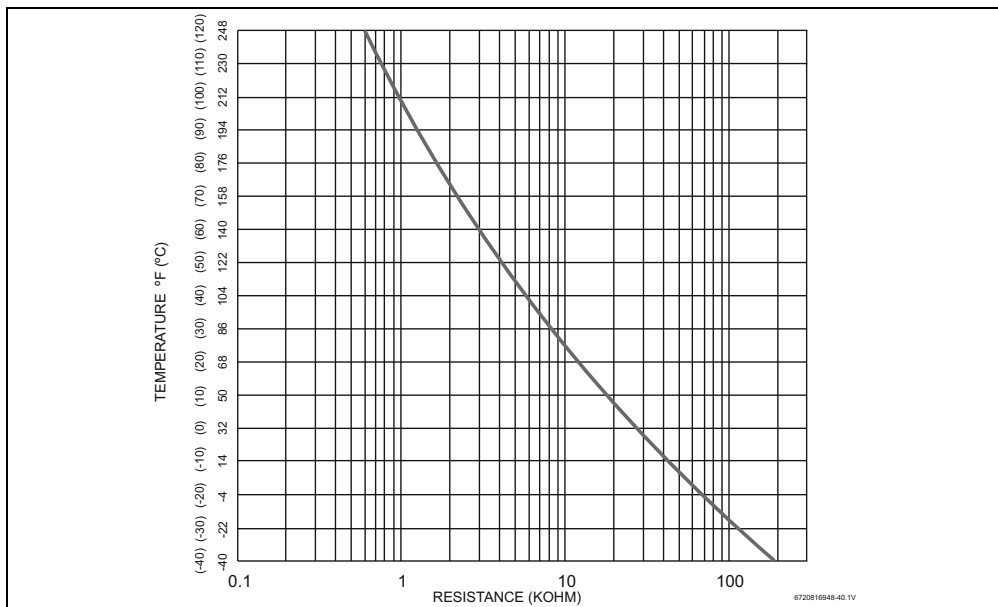

Fig. 65 Inlet, outlet and heat exchanger water temperature sensors characteristics
2) See temperature resistance charts in fig. 65 and 66.